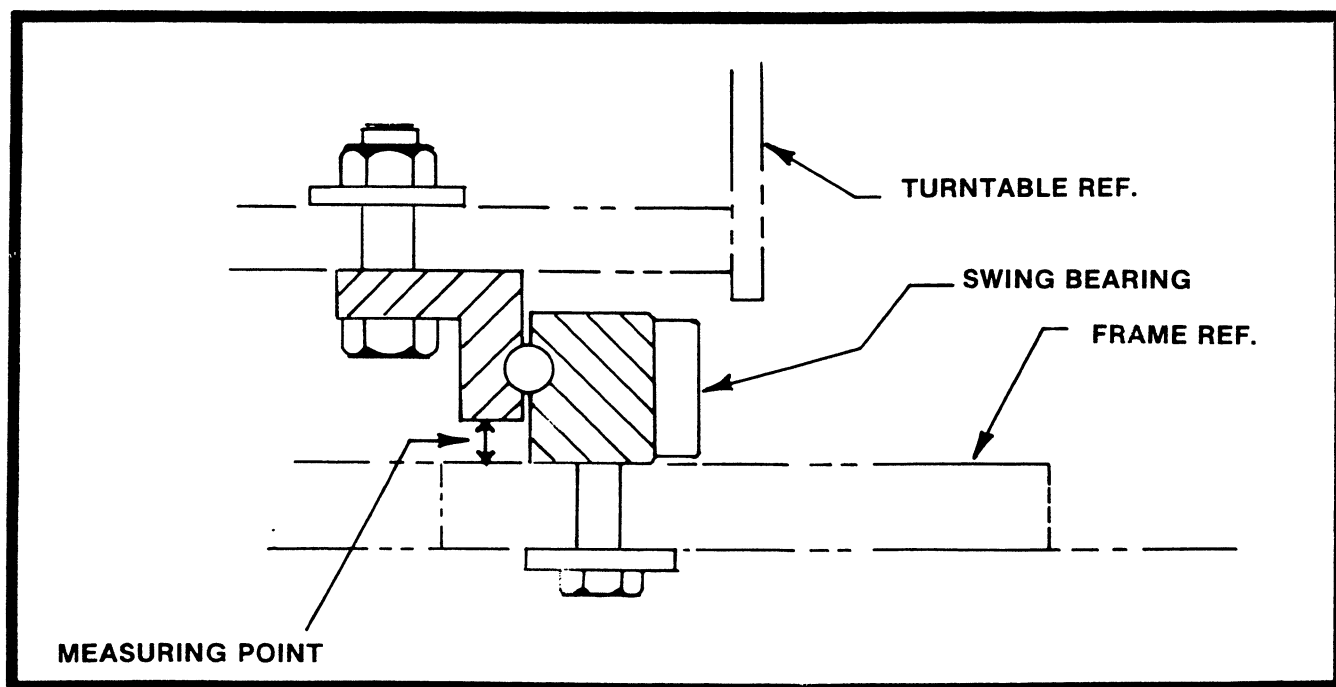

Figure 2-17. Swing Bearing Tolerance Measuring Point.
- (1). From the underside of the machine, at rear center, with the boom fully elevated and fully retracted (See Figure 2-16a), using a magnetic base dial indicator, measure and record the distance between the swing bearing and frame. (See Figure 2-17.)
- (2). At the same point, with the boom at horizontal and fully extended (See Figure 2-16b) using a magnetic base dial indicator, measure and record the distance between the swing bearing and frame. (See Figure 2-17.)
- (3). If you determine a difference greater than .057" (1.45 mm) the swing bearing needs replacing.